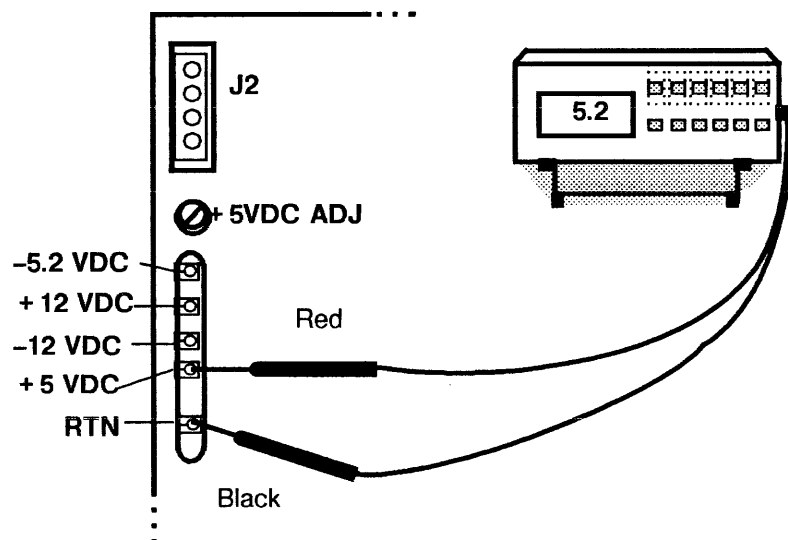

Figure 1. DC Voltage Check
4. Check the DC voltages for the following specifications (Figure 1):